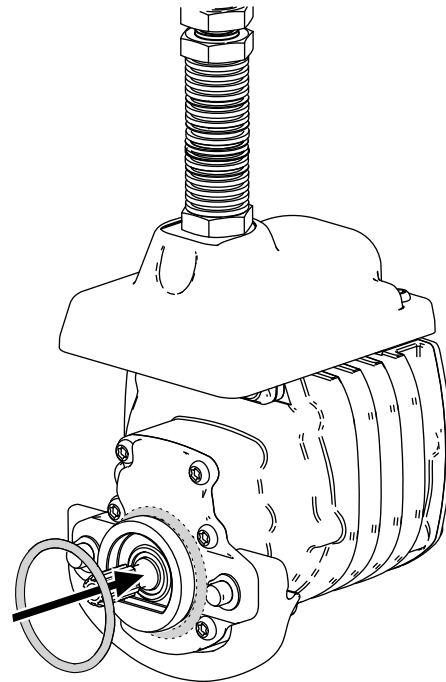

Figure 10
3. Install an O-ring to each reel motor as shown in Figure 10.